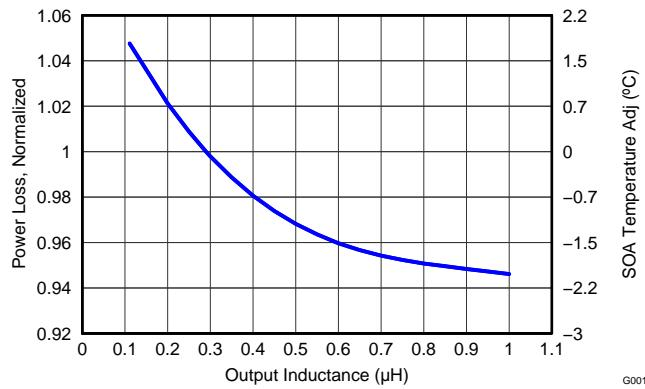

Figure 15. Normalized Power Loss vs Output Inductance
- Normalized Power Loss for output inductor ≈ 1.02 (Figure 15)
- SOA adjustment for output inductor $\approx 1.7^{\circ}\text{C}$ (Figure 15)